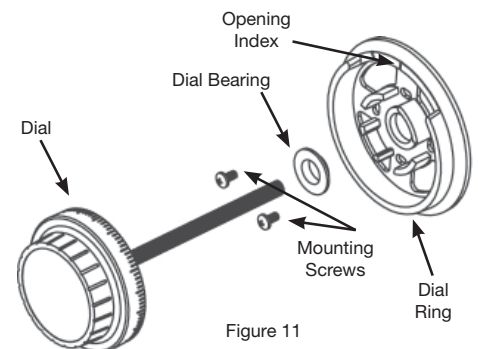

Figure 11
6. Mount the dial ring centered on the through hole, and attach to the safe door using the two mounting screws supplied with the dial assembly. The opening index reference mark must be in the twelve o'clock position. (Figure 11)